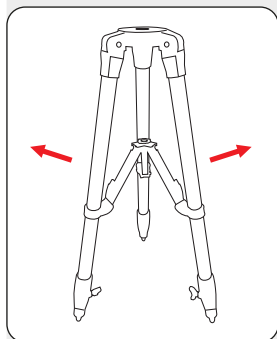

Fig. 4: Spreading the tripod legs
1. Take hold of the three upper tripod leg sections (3) and pull them fully outwards (Fig. 4).